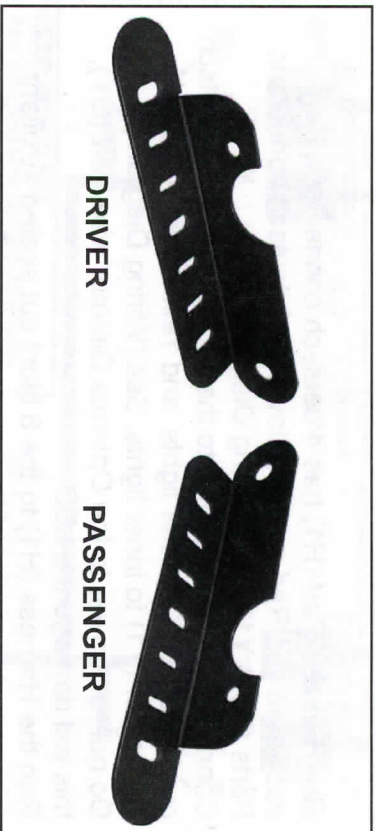

Figure 1
1. Behind the lower air dam on top of the opening locate and remove the 2 bolts needed to install the Fog light kit. One bolt is a [M8] the other a [M6] See [Figure 1].